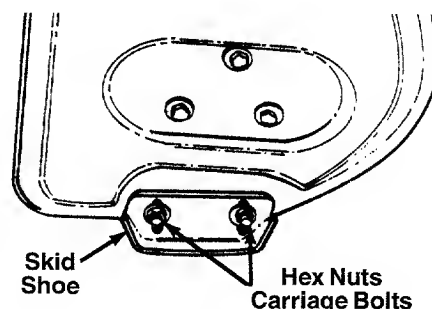

FIGURE 12
- Adjust skid shoes by loosening the four hex nuts and carriage bolts, and moving skid shoes to desired position. Make certain the entire bottom surface of skid shoe is against the ground to avoid uneven wear on the skid shoes. See figure 12.